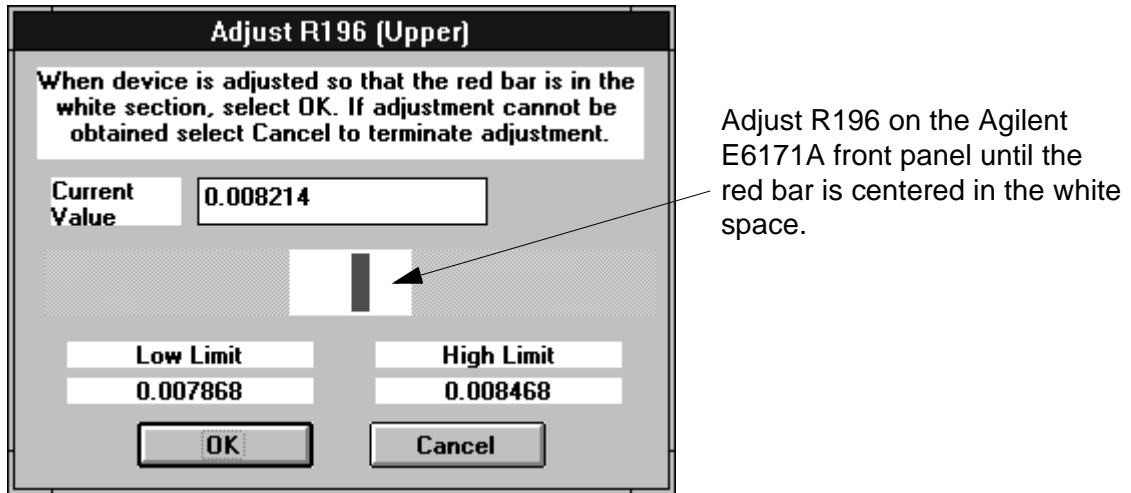

Figure 6-3. Typical Prompt Box to Adjust Potentiometer R196 on the Agilent E6171A Module
7. When prompted by the 'autoadj.tpa' testplan, adjust potentiometer R196¹ (front panel of the Agilent E6171A module) until the red vertical bar is centered in the white segment of the measurement range. See Figure 6-3.
3. When prompted by the 'autoadj.tpa' testplan, adjust potentiometer R196¹ (front panel of the Agilent E6171B module) to match the indicated reading. See Figure 6-3.